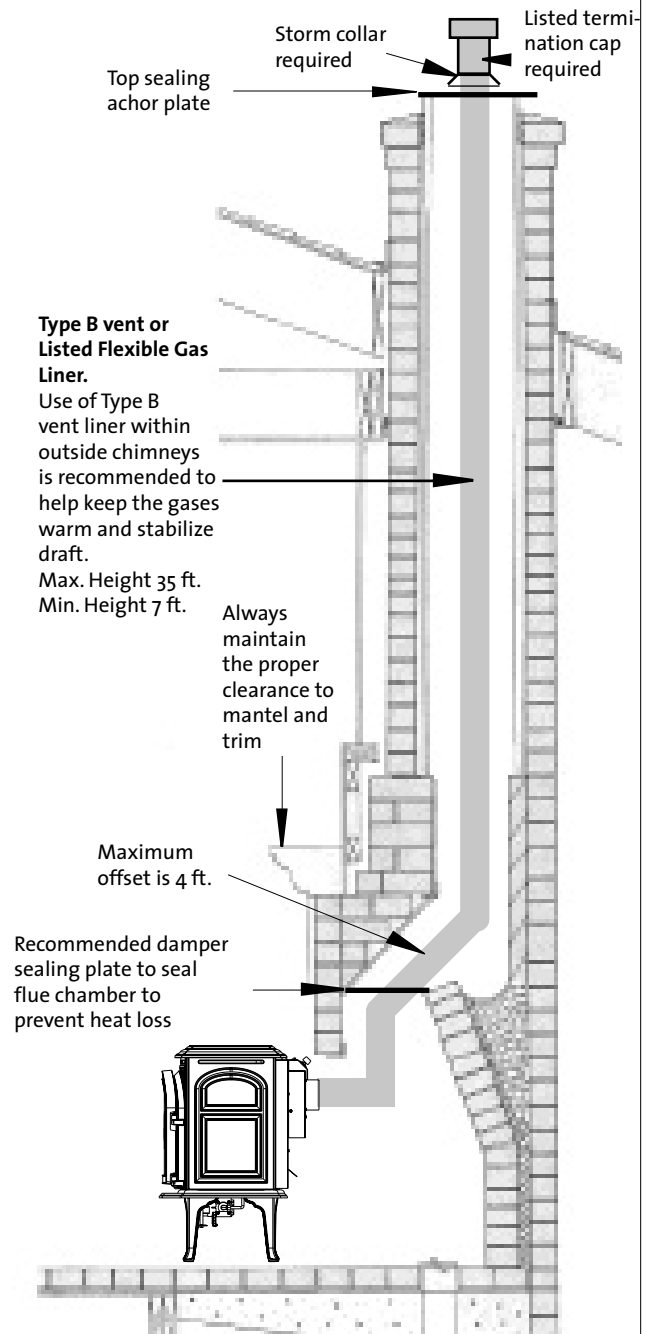

Figure 6. GF 300 BV venting through a masonry chimney.
- Any unused chimney flue enclosure, (masonry or prefabricated) can be used as a passage way for venting, but the flue must be relined using Type B 4" vent or Listed Flexible Gas Liner. See fig. 6. The remaining space around the liner in a masonry or zero-clearance flue CANNOT be used to vent any other appliance.